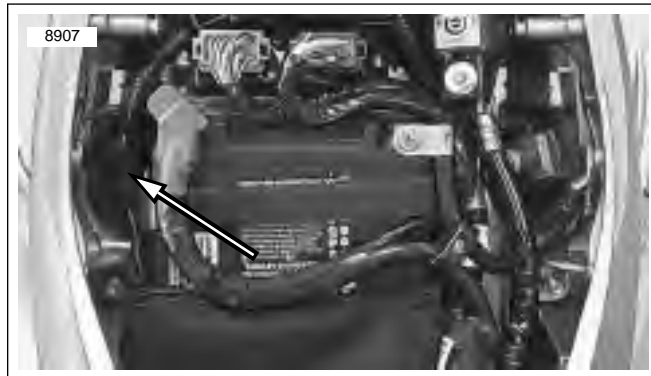

Figure 2-55. Brake Line Switch Connector (XB12S shown)
3. See Figure 2-55. Disconnect brake light connector from under seat in the front of the battery.